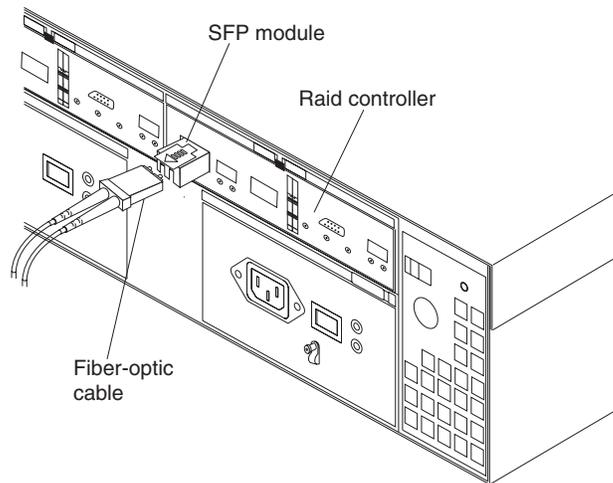

Figure 84. Location of SFPs and fiber-optic cables
9. From both RAID controllers to be upgraded, remove the fibre-channel cables from the SFPs. The location of these components is shown in Figure 84.